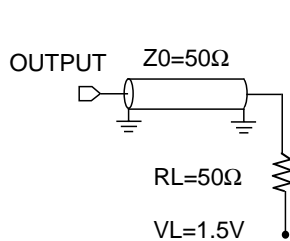
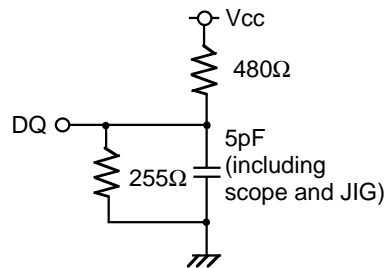

Fig.1 Output load
Fig.2 Output load for t_{en}, t_{dis}
Output loads Fig1, Fig2
5. Transition is measured ± 500 mv from steady state voltage with specified loading in Figure 2.